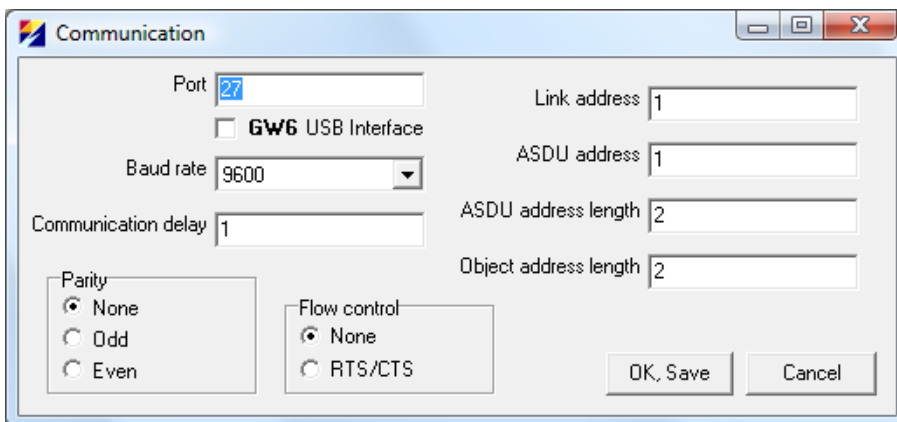

Figure 10.1.2. Communication parameters window
- **Communication Setup** - For changing communication parameters (figure 10.1.2)